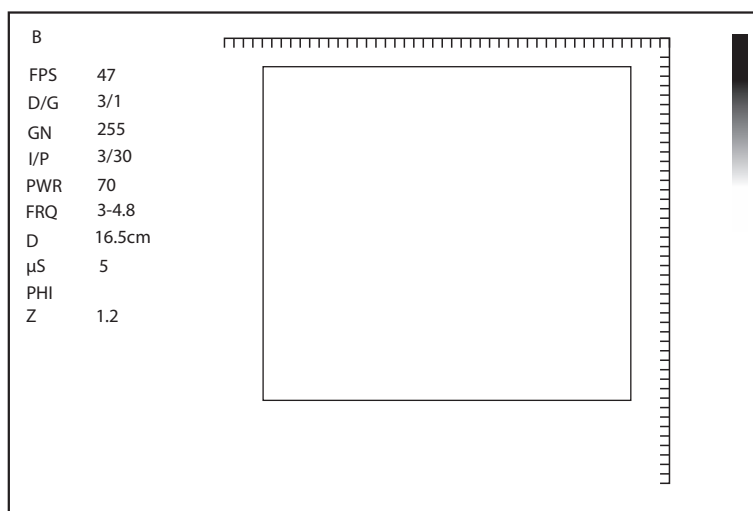

Figure 11-4 Real-Time Panoramic Imaging Screen
5. Press the  key to freeze the image and the image is displayed in full view on the screen as shown in Figure 11-4.